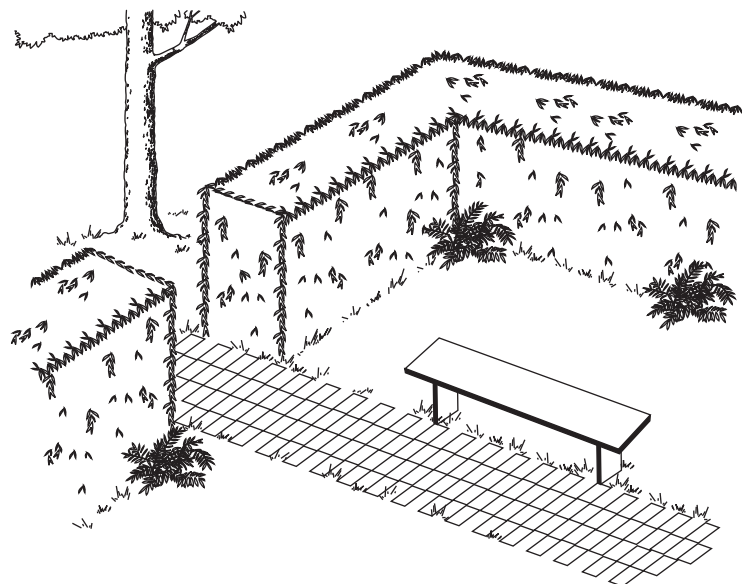

Fig. 5
- If desired, you can use a string to help cut your hedge level. Decide how high you want the hedge. Then, stretch a piece of string along the hedge at this height. Trim the hedge just above this guide line of string. Trim the side of a hedge so that it will be slightly narrower at the top. More of the hedge will be exposed when shaped this way, and be more uniform (Fig. 5).